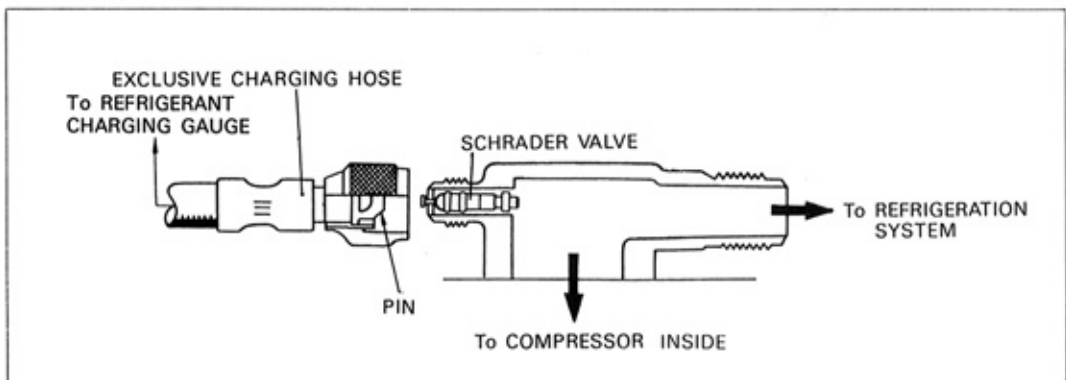

Fig. 87
1. The fittings for attaching the refrigerant charging gauge are located on the compressor service valves. These service valves have schrader type valve shown in Fig. 87 so charging hose which is connected to the service valve fittings should be a pin at the end of charging hose.